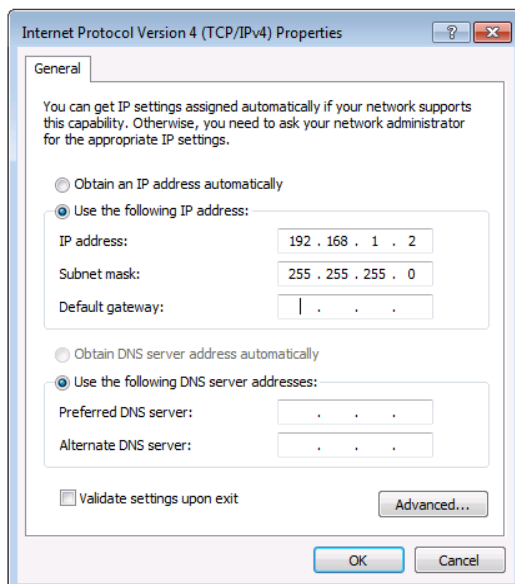

Figure 17: Internet Protocol Properties Window
6. Select **Use the following IP Address** for static IP addressing and fill in the details as shown in Figure 17.